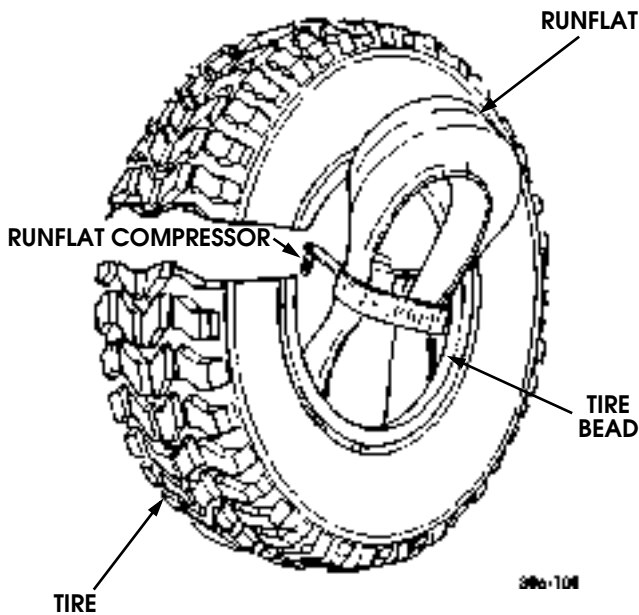

Figure 6-12: Runflat Insertion
4. Stand tire up and lubricate tire bead and runflat with tire lube (Figure 6-12).